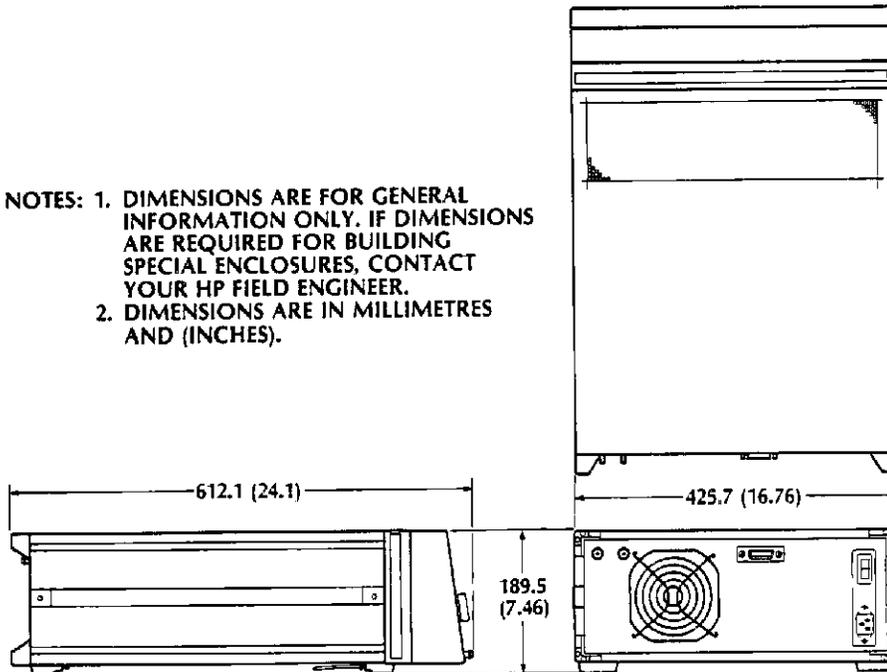

Figure 3-1. HP 54100A/D Dimensions
**Dimensions:** Refer to outline drawing (figure 3-1).